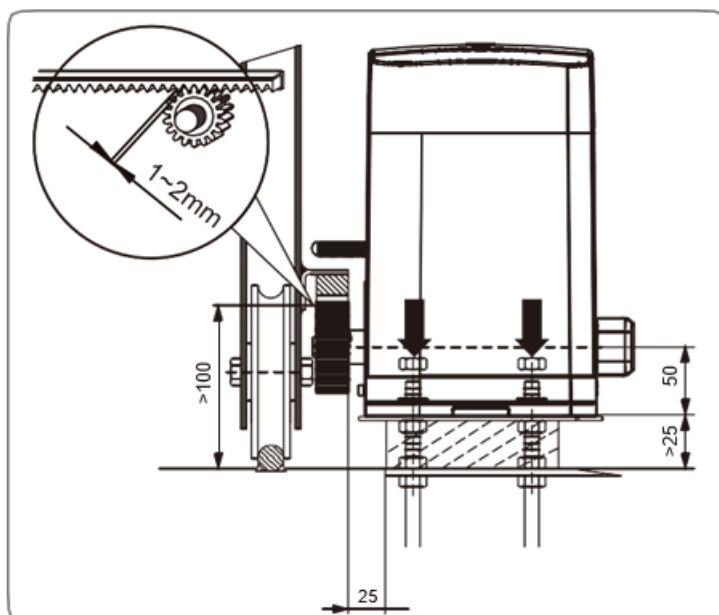

Fig 1.1
- ⇒ The distance from the gate to the outer edge of the rack (i.e. the rack width) and to the datum line (see Fig. 1.1 and Fig. 1.2).
- ⇒ Mark a line parallel to the face of the gate for the mounting holes. The distance from the gate is determined by the formula $(38\text{mm} + \text{Rack Width})$. (see Fig. 1.1).